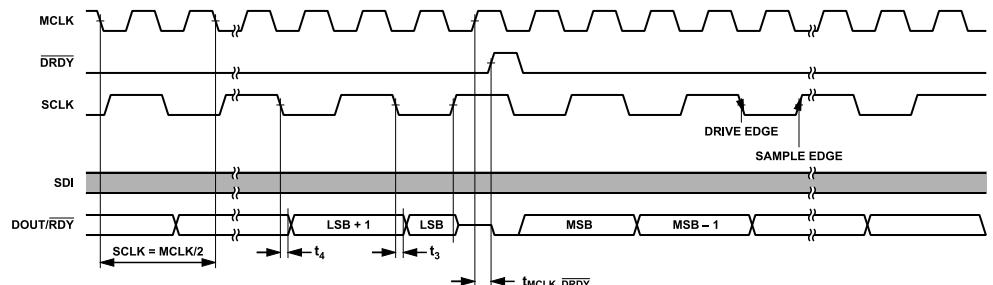

Figure 178. Recommended Interface for Reading Conversions, SPI Control, Continuous Readback Mode
The ADAQ7769-1 interface is flexible to allow the many modes of operation and for data output formats to work across different DSPs and MCUs. To achieve maximum performance, the recommended interface configuration for reading conversion results is shown in Figure 178. This recommended implementation uses a synchronous SCLK to MCLK relationship.
Figure 178 shows how the recommended interface operates. The data readback spans the entire length of the $\overline{\text{DRDY}}$ period, and the LSB remains until $\overline{\text{DRDY}}$ goes high for the next conversion.
2. Generate SCLK based on the $\overline{\text{DRDY}}$ or $\overline{\text{RDY}}$ timing. SCLK is high when the $\overline{\text{DRDY}}$ signal goes high and transitions on the MCLK falling edges (see Figure 178) to ensure that the LSB can be read correctly as the DOUT/RDY output is reset on the $\overline{\text{DRDY}}$ rising edge. However, SCLK rising occurs before this transition.
Because the full ODR period is for clocking data, the $\overline{\text{RDY}}$ signal no longer flags after each LSB outputs. This signal only flags if the ADAQ7769-1 is in continuous readback mode, or if the ADAQ7769-1 does not count 32 SCLKs within $1 \times t_{\text{MCLK}}$ before $\overline{\text{DRDY}}$, as shown in Figure 178.